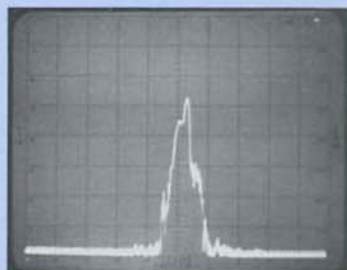
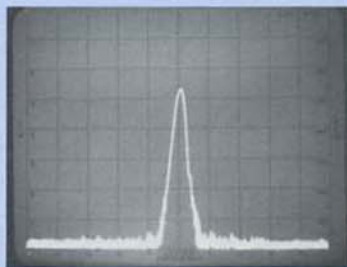

Figure 35A.
Figure 35B.
21. Reset the spectrum analyzer controls as in Step 2. Reconnect the ET-2399A signal source. Tune FREQUENCY to 30 MHz. Set SCAN MODE to PER DIVISION, decrease BANDWIDTH to 0.3 kHz, and SCAN WIDTH to 5 kHz/DIV. Some change in coarse FREQUENCY and FINE TUNE may be necessary to keep signal in near-center screen. Note the instability of the trace. See Figure 35A. Turn the TUNING STABILIZER ON. See Figure 35B. HP's unique automatic stabilization circuit eliminates tedious adjustments to lock the analyzer. You don't even have to operate the TUNING STABILIZER switch! Simply leave the switch ON all the time. The analyzer will be automatically stabilized for the blue-coded SCAN WIDTHS when in PER DIVISION and ZERO SCAN positions.